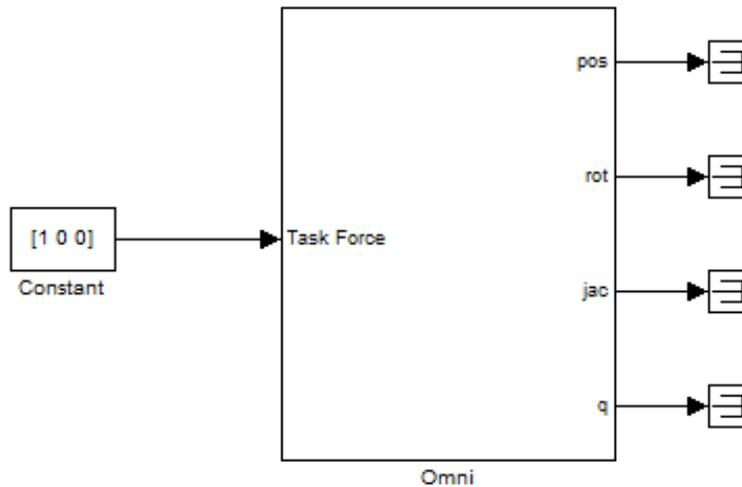

Figure 9.3: Omni model with force input
9. Go to the parent model. Notice the input node *Task Force* you created earlier. Attach a **Constant** input to this node. Enter in the vector $[1\ 0\ 0]$. Your model should resemble Figure 9.3.